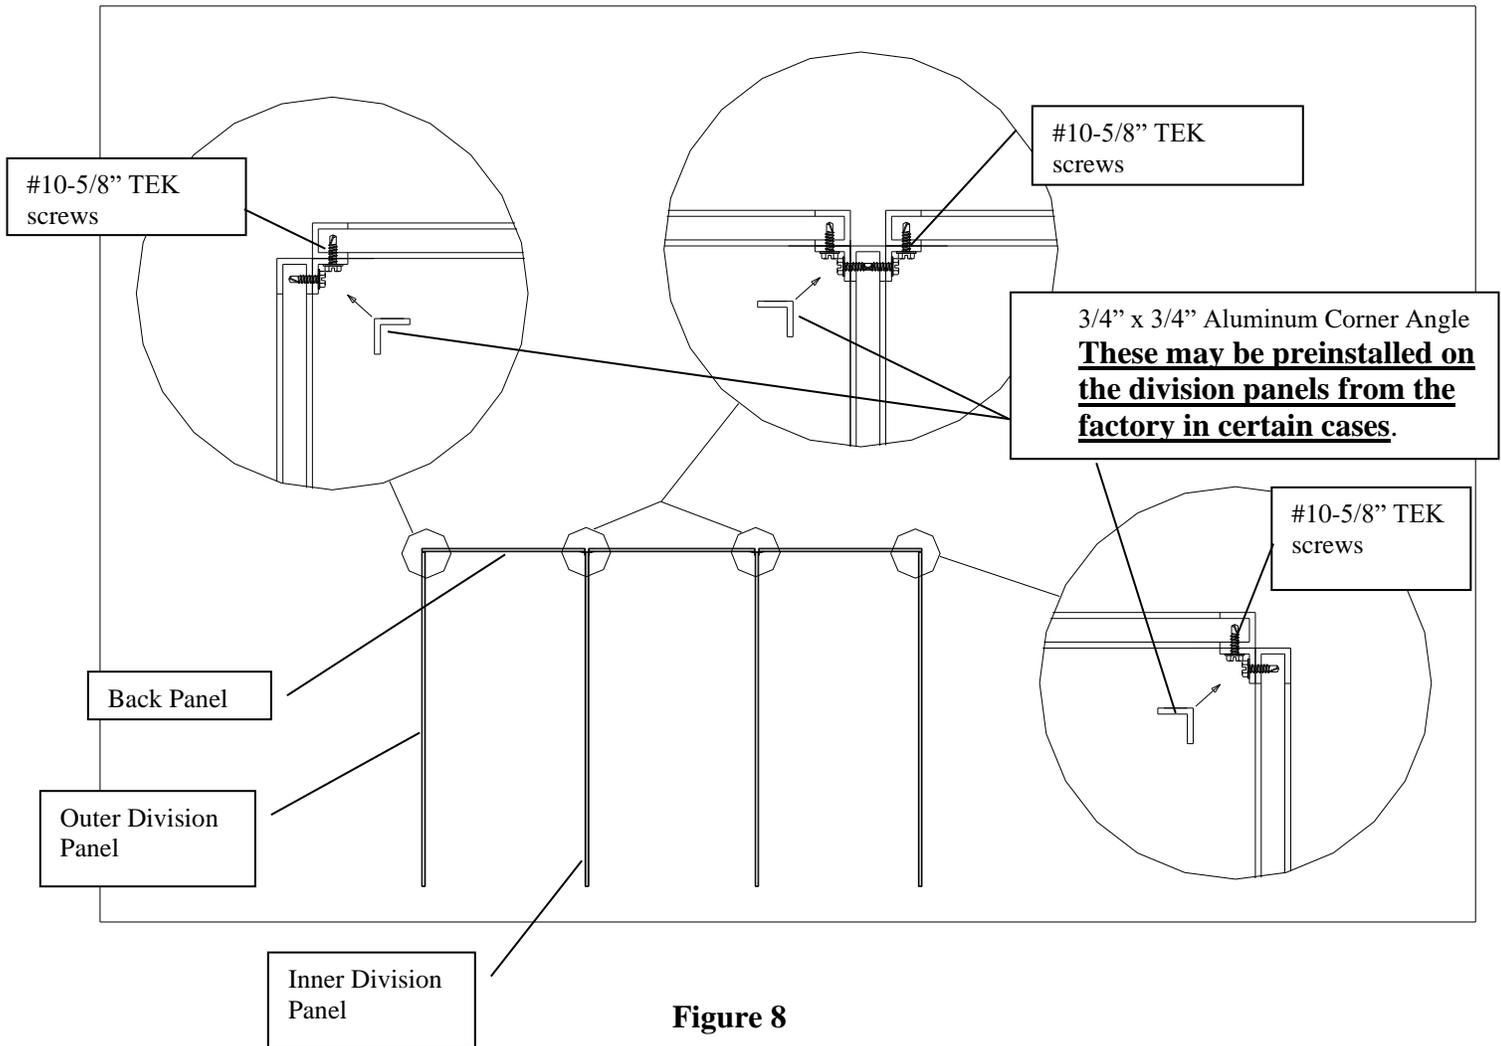

Figure 8
6. Starting from the point you selected in step C-1 place the first "outer division panel" on the corresponding "Sanislope T". See Figure 8 for the sequence in which to assemble the panels.
7. Following the floor layout sequence, set the first back panel against the corner of the back edge of the end division panel. Clamp the full length corner angle in position (see Figure 8). The corner angles are predrilled with clearance holes in the proper locations. Vise grips or C-clamps are recommended to keep the parts from shifting. Fasten the panels together using #10 screws as depicted. Angles should be flush with the tops of the panels. **These may be preinstalled on the division panels from the factory in certain cases.**
9. Continue placing and connecting division panels and back panels in the proper sequence, paying close attention to the corner layouts, as shown in the enlarged views on Figure 8.